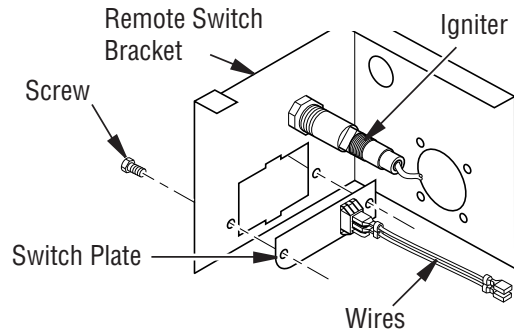

Figure 26 - Switch Plate and Wiring Harness
3. Remove switch plate (see **Figure 26**). Discard after removing.